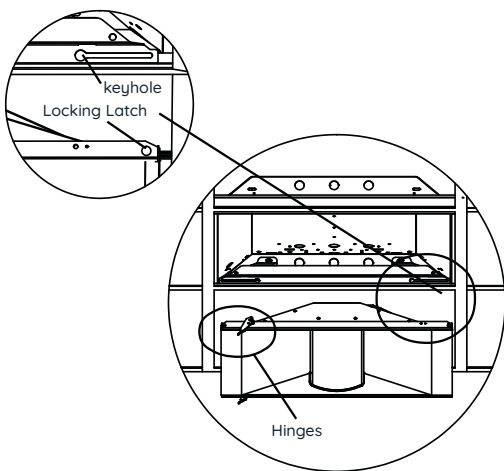

Fig. 4
- 5 Locate the lamp body onto the keyholes of end brackets, then slide the body horizontally to the end of slots. (Fig.4)